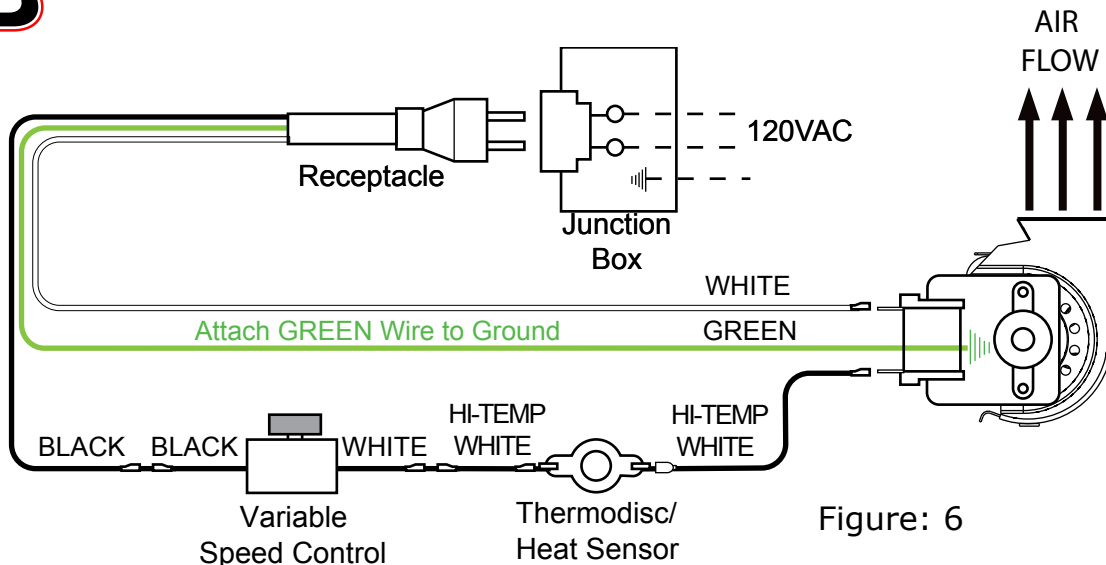

Figure: 6
•Wiring Diagram for this Blower Kit is illustrated in Figure: 6.